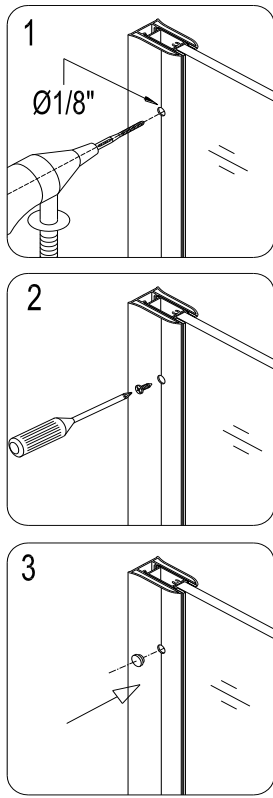

Fig. 11
11. Repeat Step 10 to attach the **Wall profile 2** to glass profile 2. See Fig. 11 for details.